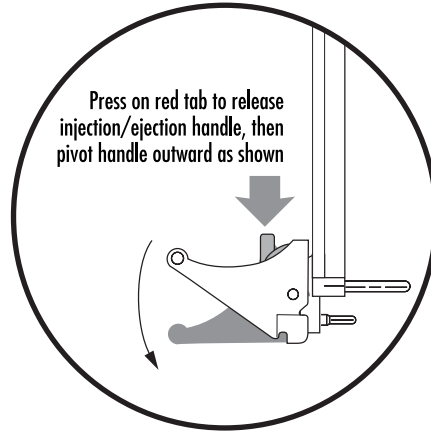

Figure 7. Releasing a injection/ejection handle
4. Press on the red tab on each injection/ejection handle to release the handle (see figure 7).
3. Press on the red tab on each injection/ejection handle to release the handle (see figure 7 on page 28).